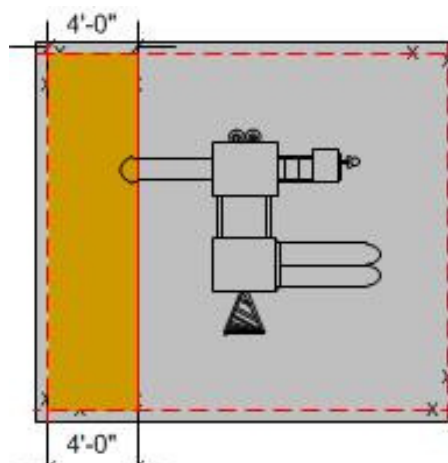

Fig. 9
- The adhesive should be spread thin and even, now covering the complete area between chalk lines (Fig. 9).